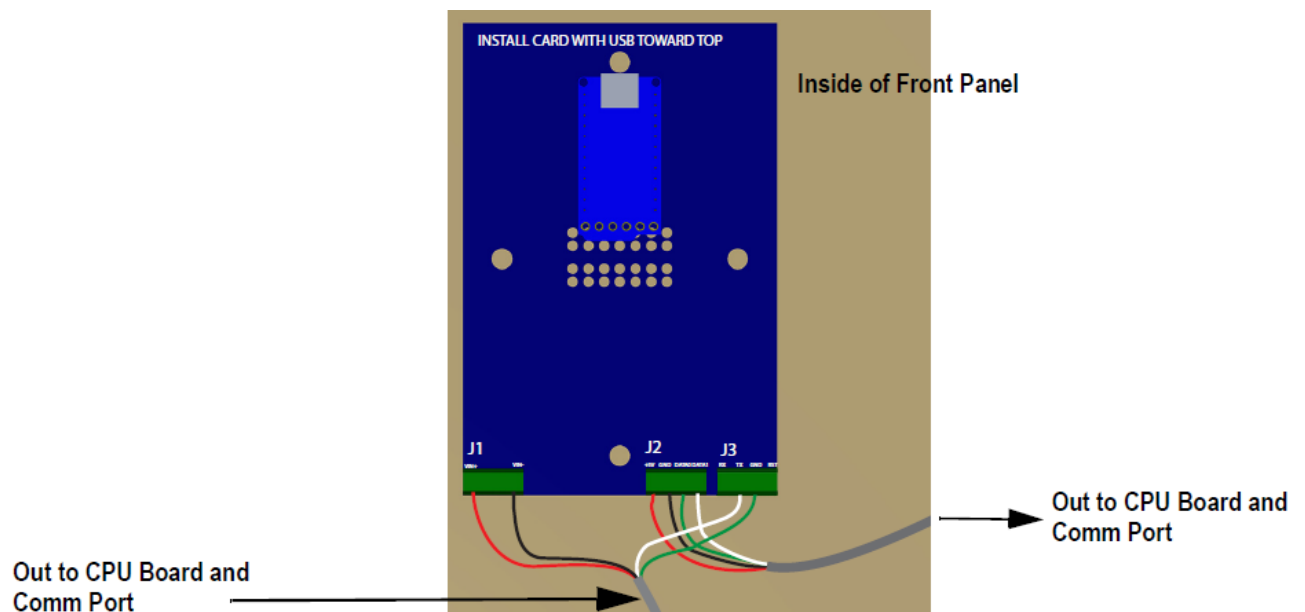

Figure 7. Install Interface Board and Wire
3. Wire connections as shown below and in Figure 7.